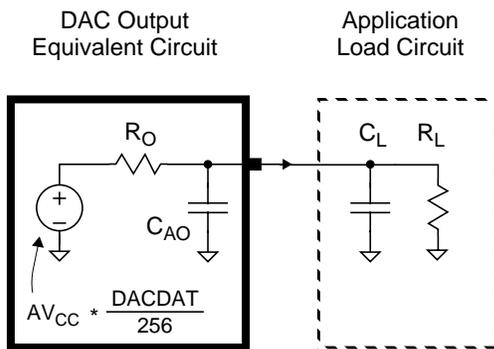

Figure 17-3. DAC Output Equivalent Circuit
The DAC output settling time depends on the external load characteristics and the required accuracy. Figure 17-3 shows the equivalent circuit used for evaluating DAC behavior. Each DAC output has a typical output impedance of 3 KΩ. For example, if the total load is a 50 pF capacitor only, the output settles to 1/2 LSB within 1 μs. The total load capacitance is comprised of the analog output capacitance (CAO) and the external load capacitance (CL).